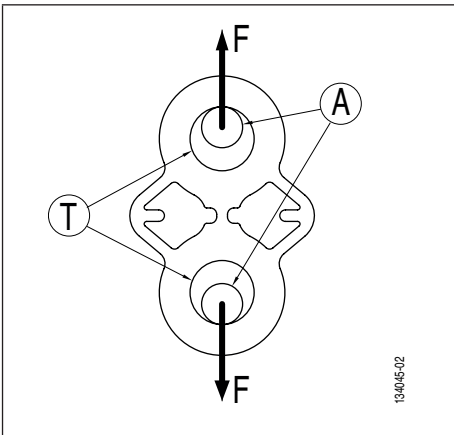

Fig. 2
A full range of TA test plates has been developed in order to test anchor points in traction. The plate fastening holes (*Fig. 2, page 4, item T*) are designed to receive high-strength bow shackles.
- Loading of the TA test plate (*Fig. 2, page 4*).